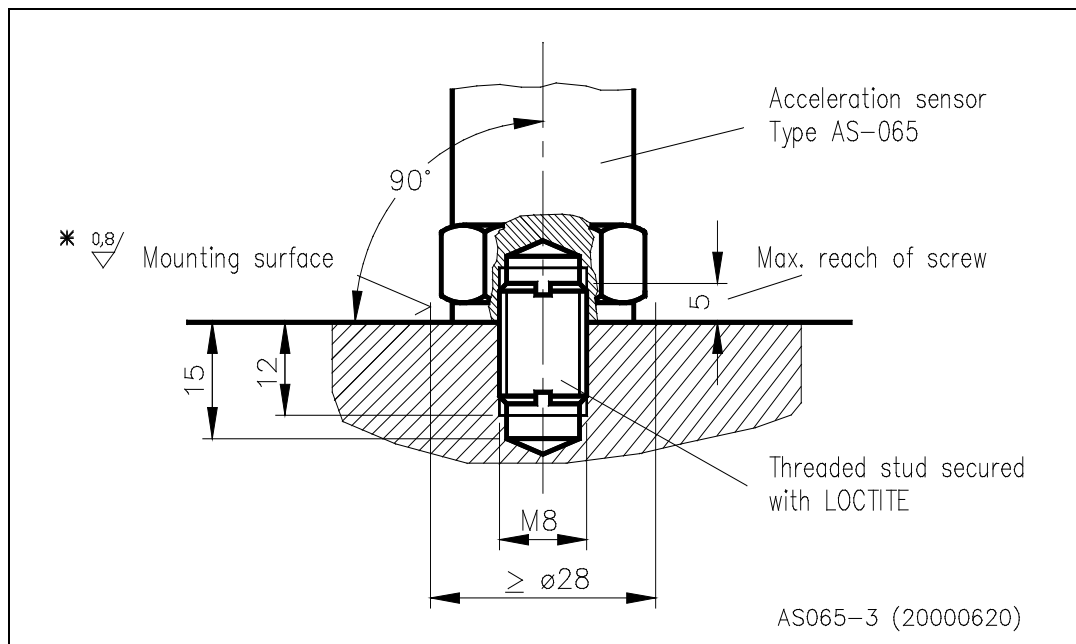

Fig. 3 Mounting
- Screw the stud into the mounting surface in accordance with fig. 3 and secure it (e.g. with LOCTITE 243 medium-bond, LOCTITE 270 heavy-duty bond).